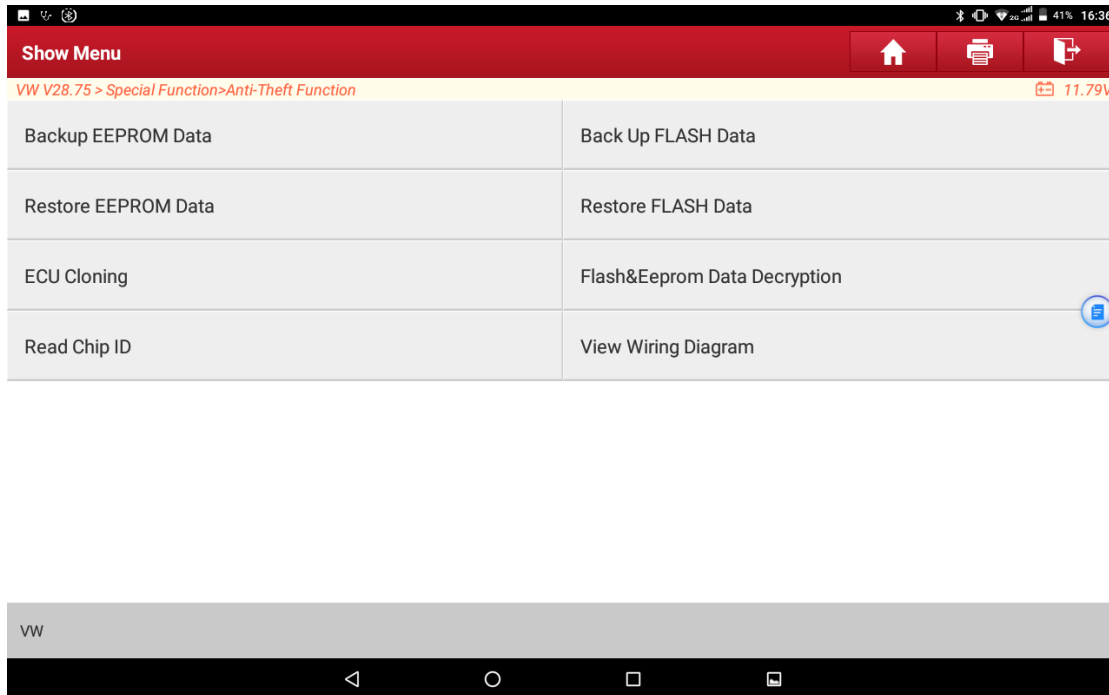

Figure 14
9. Click Return to execute the function of 【Restore EEPROM Data】 function, as shown in Figure 14, load the data generated in step 8 and write it to the external engine, and finally install the external engine in the vehicle, as shown in Figure 15;